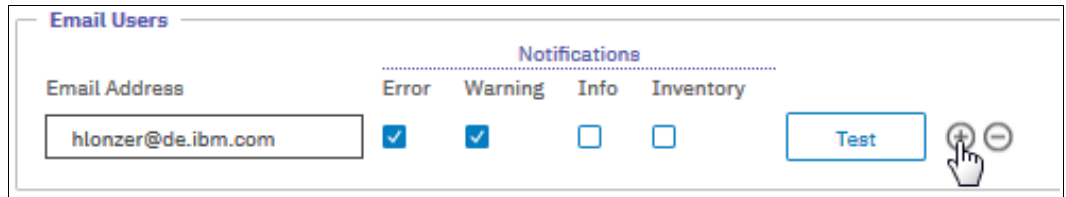

Figure 12-79 Add Email User
- In the Email Users section, click **+**, as shown in Figure 12-79.